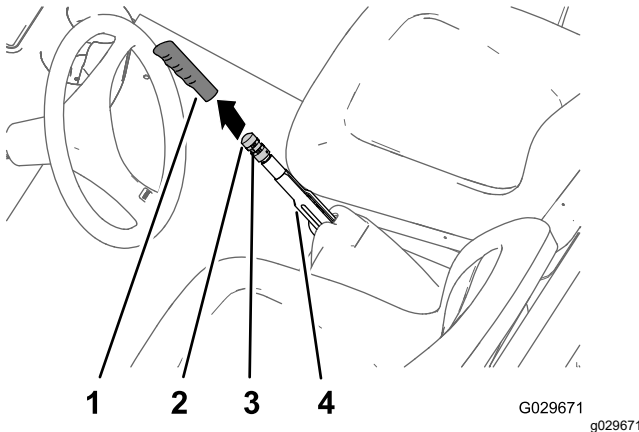

Figure 49
1. Remove the handgrip from the parking-brake lever (Figure 49).
2. Loosen the set screw securing the brake-adjustment knob to the parking-brake lever (Figure 49).
3. Rotate the brake-adjustment knob until you reach a force of 133 to 156 N (30 to 35 lbf) to engage the parking-brake lever (Figure 49).
4. Tighten the set screw and install the hand grip (Figure 49).
2. Loosen the set screw (Figure 49) securing the brake-adjustment knob to the parking-brake lever, disengage the parking brake, and loosen the brake-adjustment knob.
5. Rotate the brake-adjustment knob (Figure 49) until a force of 133 to 156 N (30 to 35 lbf) is required to engage the parking-brake lever.
- C. Rotate the brake-adjustment knob (Figure 49) until a force of 133 to 156 N (30 to 35 lbf) is required to engage the parking-brake lever.
- Tighten the set screw and install the handgrip (Figure 49).